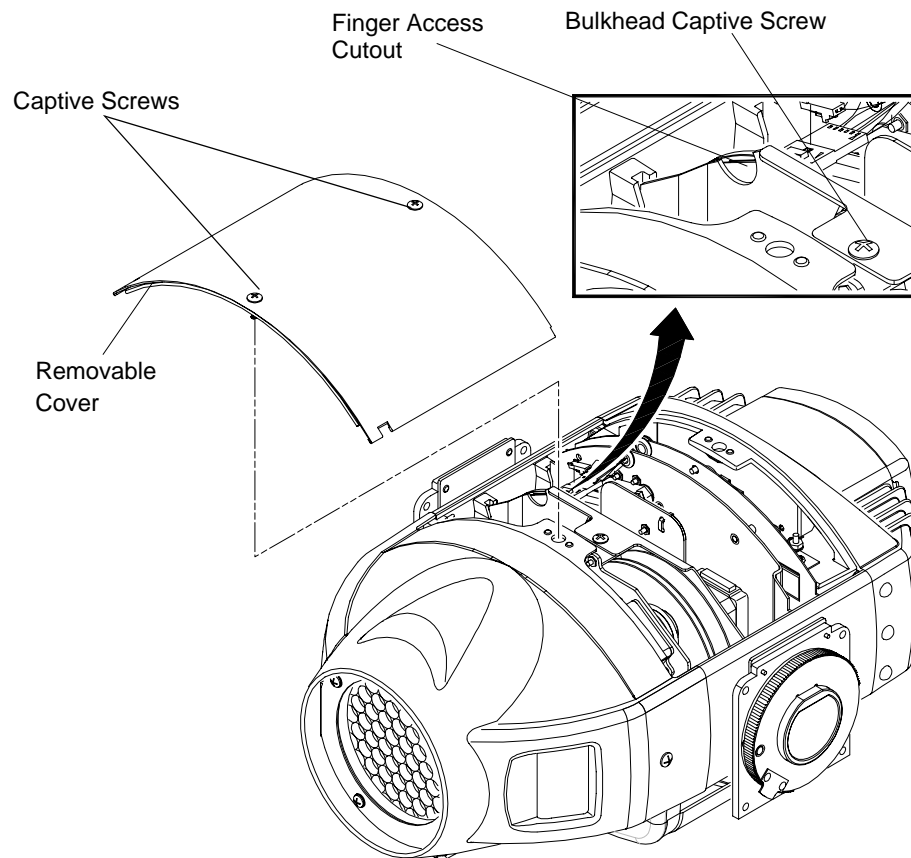

Figure A-2: Filter Removal
- Step 2. At removable cover, using #2 Phillips screwdriver, turn two captive screws one-quarter turn and remove cover. (It will remain attached by tether.) See **Figure A-2**.